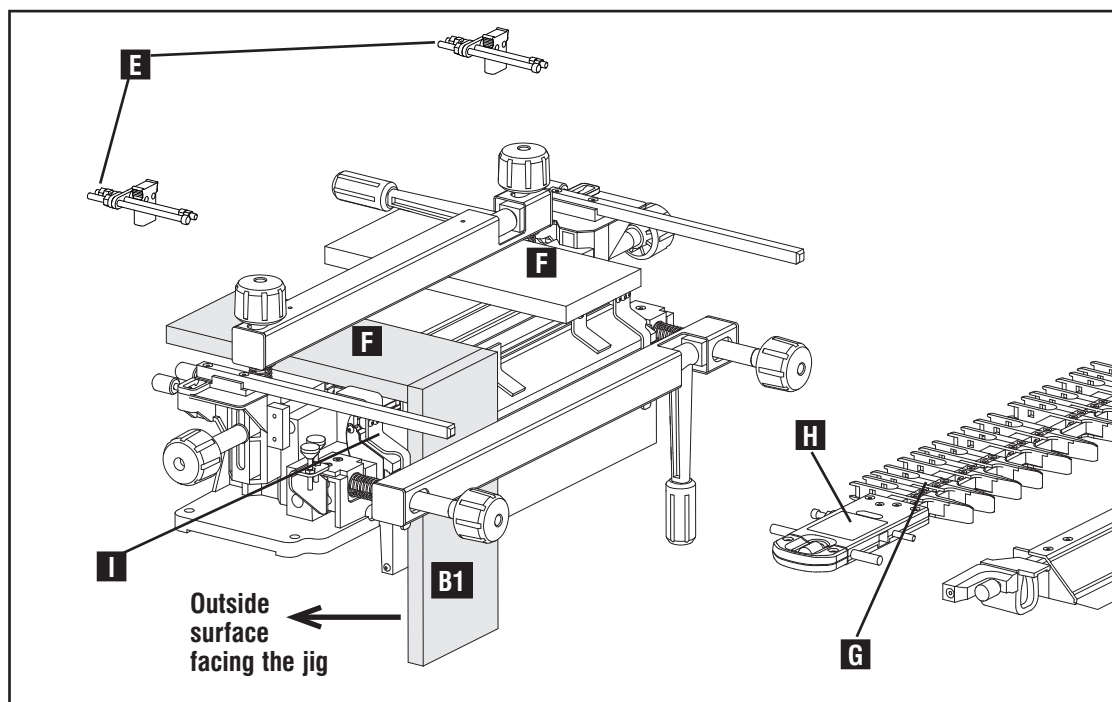

Fig. I6
Use stops (E) Fig. I6 labeled "BOX LEFT" and "BOX RIGHT" for the variable finger template. Use stops labeled "MINI-BOX LEFT" and "MINI-BOX RIGHT" for the mini finger template.
1. Mount horizontal scrap boards (F) Fig. I6 and template (G). Be sure the "B PINS" label (H) is to the left as you face the jig.
2. Vertically mount the first board to be cut (B1) Fig. I6 with the "outside surface" facing the jig. The board should be flush with the left edge guide (I) and tight against the underside of the template (G).
3. To reduce tearout, be sure the horizontal scrap (F) is pulled forward flush with the back of first board B1.